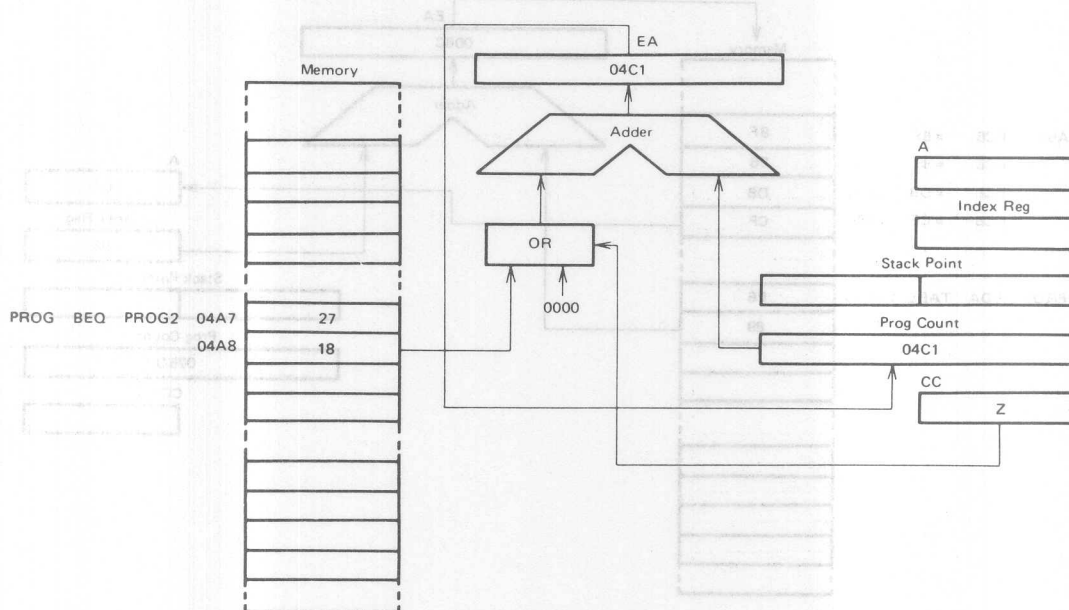

Figure 17 Relative Addressing Example
Refer to Figure 17. The relative addressing mode applies only to the branch instructions. In this mode the contents of the byte following the opcode is added to the program counter when the branch is taken. $EA = (PC) + 2 + Rel$. Rel is the contents of the location following the instruction opcode with bit 7 being the sign bit. If the branch is not taken Rel=0, when a branch takes place, the program goes to somewhere within the range of +129 bytes to -127 of the present instruction. These instructions are two bytes long.